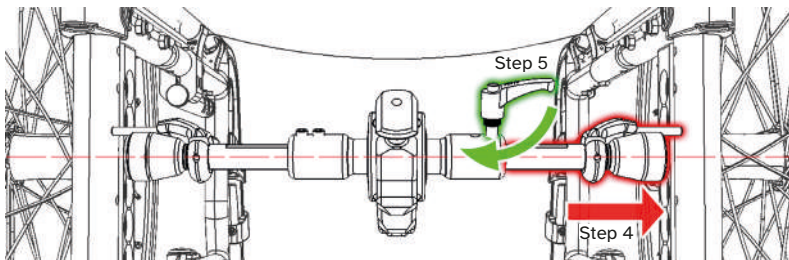

Figure 19
4. Extend the telescopic axle until it reaches the maximum possible extension between the wheels of the wheelchair (Figure 19).
5. Tighten the fixing lever to secure the telescopic axle in position (Figure 19).